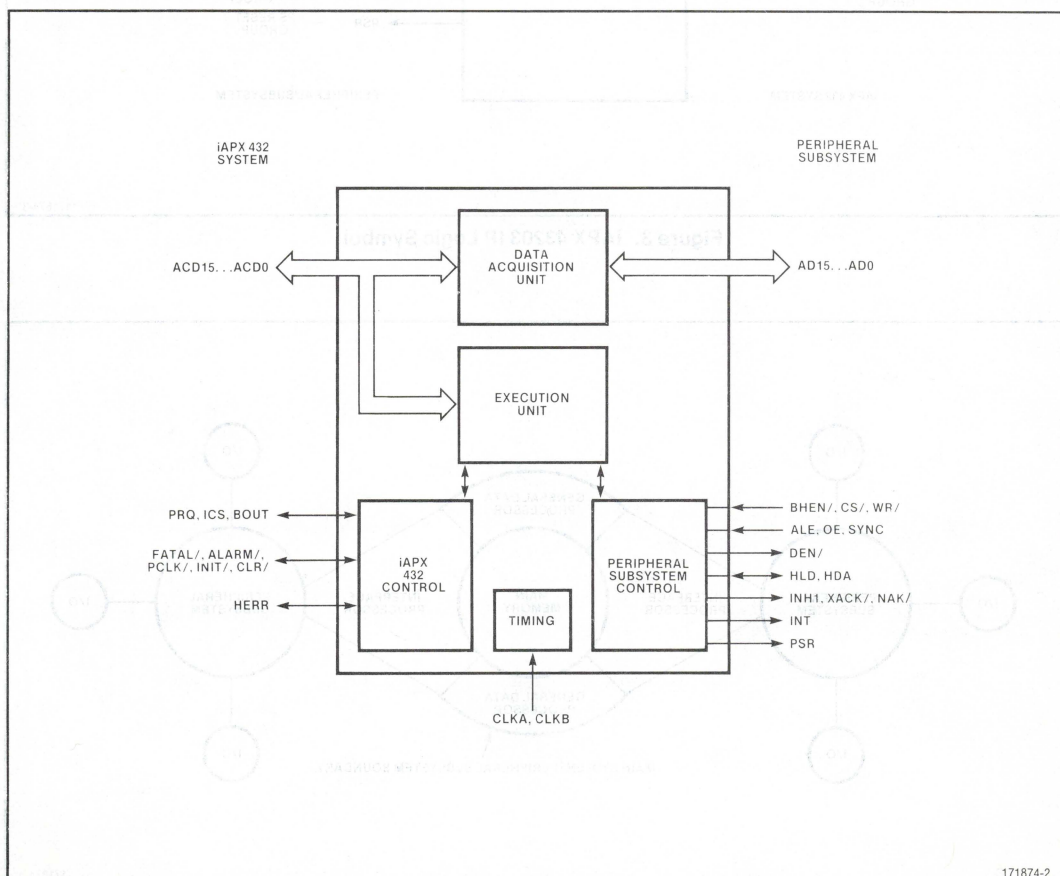
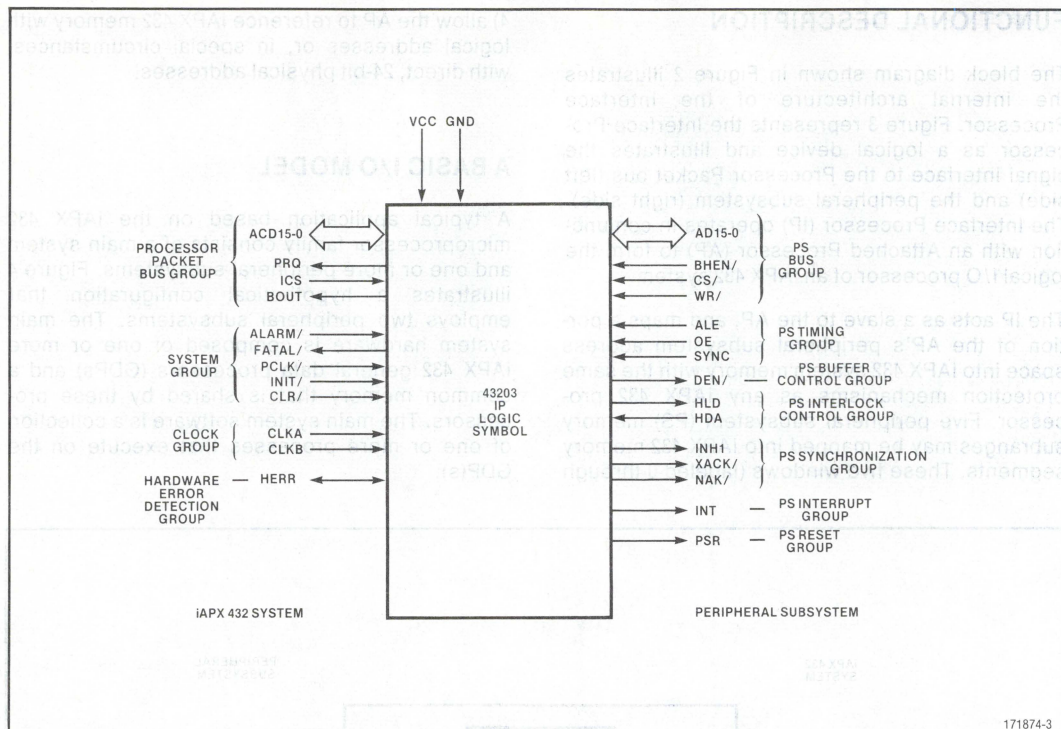

Figure 2. iAPX 43203 IP Functional Block Diagram
Figure 3. iAPX 43203 IP Logic Symbol
The block diagram shown in Figure 2 illustrates the internal architecture of the Interface Processor. Figure 3 represents the Interface Processor as a logical device and illustrates the signal interface to the Processor Packet bus (left side) and the peripheral subsystem (right side). The Interface Processor (IP) operates in conjunction with an Attached Processor (AP) to form the logical I/O processor of an iAPX 432 system.